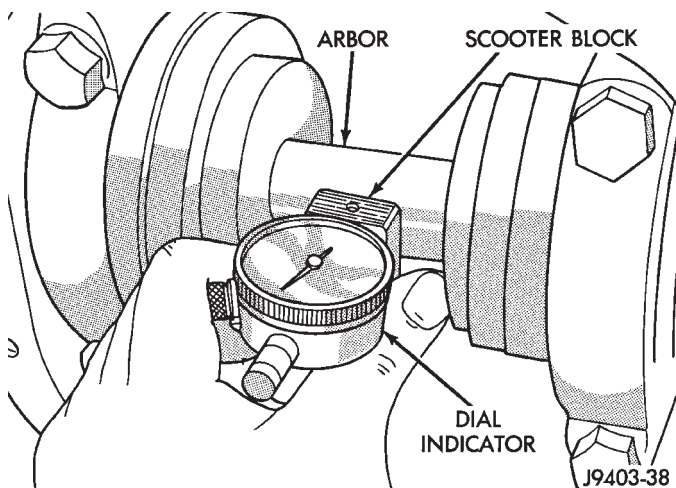

Fig. 49 Pinion Gear Depth Measurement—Typical
(7) With scooter block still in position against the pinion height block, slowly slide the dial indicator probe over the edge of the pinion height block.
(8) Slide the dial indicator probe across the gap between the pinion height block and the arbor bar with the scooter block against the pinion height block (Fig. 49). When the dial probe contacts the arbor bar, the dial pointer will turn clockwise. Bring dial pointer back to zero against the arbor bar, do not turn dial face. Continue moving the dial probe to the crest of the arbor bar and record the highest reading. If the dial indicator can not achieve the zero reading,